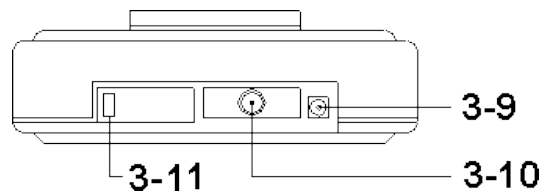

Fig. 1
Adjust the " Rubber Pad " (3-7, Fig. 1) until the water bubble of the " Level Bubble " (3-2, Fig. 1) on the center position, then the scale already install under the horizontal position completely.
- 2) Set the "g" or "oz" unit by slide the " Unit Switch "(3-11, Fig. 1).
- 3) Turn the " Power Switch " (3-6, Fig. 1) to the " On " position.
The " Display " (3-5, Fig. 1) will show " 8.8.8.8.8 " for a few seconds, then " 0 " value (0.00 g for gram function, 0.0000 for oz function) will be present.
After weighting the first item, press " Tare Button " (3-4, Fig. 1), scale will reset to zero values automatically. At the same time, the LCD display will show the " TARE " mark. Place next weighted item onto scale. Scale will give weights of the second only.
Press the " CAL. Button " (3-3, Fig. 1) once, display will show the value of " 200.00 g "
Following press the " Tare Button " (3-4, Fig. 1) once, display will show the value of " 400.00 g "
Press the " CAL. Button " (3-3, Fig. 1) once again, display value of " 400.00 g " will flash 6 times, then the calibration procedures are finished completely & balance is ready for the measurement accurately.
Press the " CAL Button " (3-3, Fig. 1) once again, display value of " 200.00 g " will flash 6 times, then the calibration procedures are finished completely & balance is ready for the measurement accurately.
- 2) Use the finger to hold the " CAL. Button (function A Button) " (3-3, Fig. 1), at the same time set the " Power Switch " (3-6, Fig. 1) to the " On " position. Until one beeper sound is present, then release the finger away from " function A Button ".
c. Until the display reach the no. of sample units exactly, for example " 50 ", push the " function A Button " (3-3, Fig. 1) once a while. The display will flash twice and freeze the sample counting no., then take away the sample units. Now the balance is ready for counting.
- b. Push the " function A Button " (3-3, Fig. 1) once a while. LCD will show no. of sample units from 10, 20, 50, 100 in sequence & changed per second.
- c. Put the counting sample units (For example 10 PCs, 20 PCs, 50 PCs or 100 PCs) on the platform. Until the display reach the no. of sample units exactly, for example " 50 ", push the " function A Button " (3-3, Fig. 1) once a while again. The display will flash twice and freeze the set counting no., then take away the sample units. Now the balance is ready for counting & the sample counting units already change to new value.
- 1) Open " Battery Cover " (3-8, Fig. 1) located at the bottom of the scale.
- 2) Plug the jack from the Adapter into the " DC 9V receptacle " (3-9, Fig. 1).
The instrument features an RS232 output via 3.5 mm Terminal (3-10, Fig. 1).